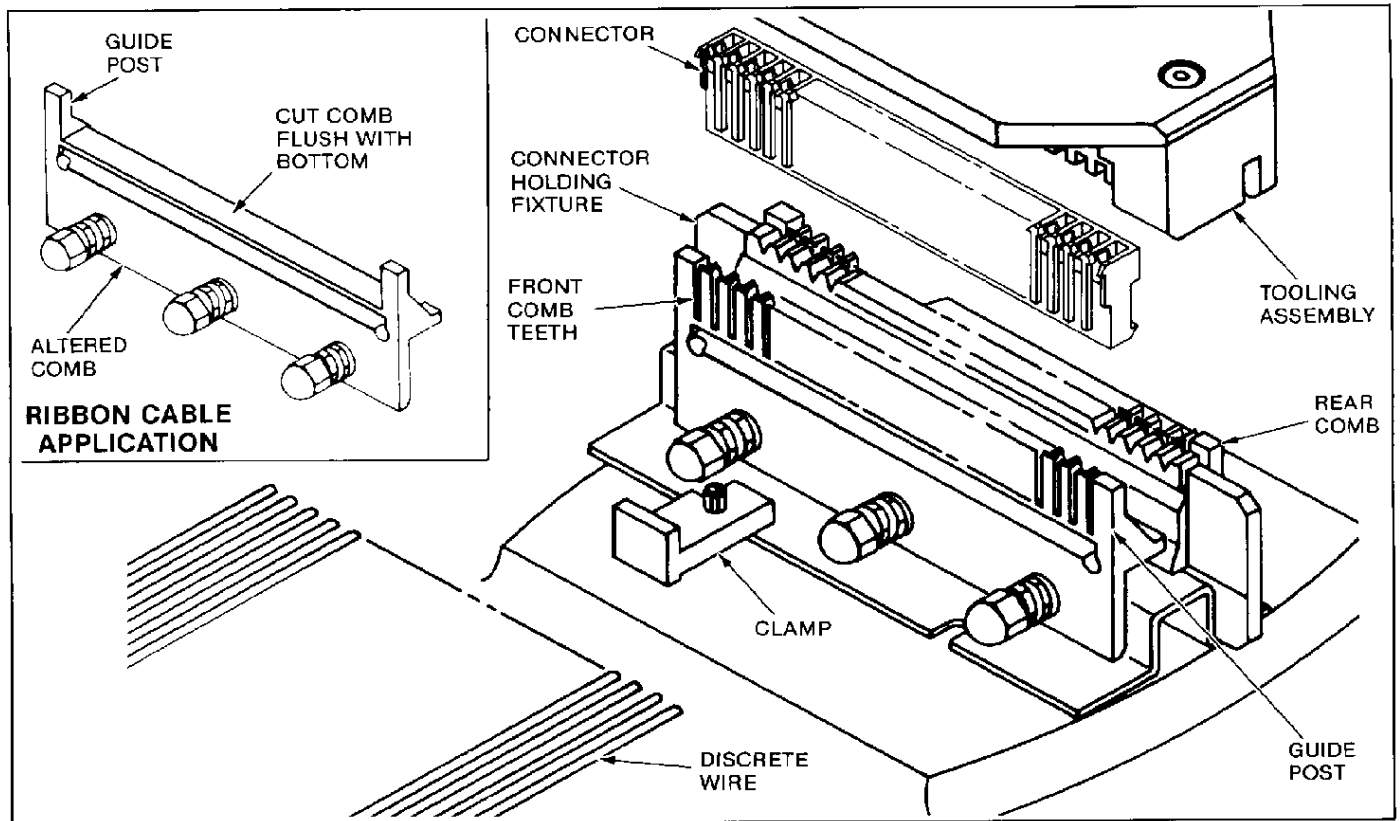

Fig. 4
1. Spread connector holding fixture and insert connector into center of fixture as shown in Figure 4.
1. Remove or cut off rear comb of connector holding fixture for use in feed-through applications. See Figure 4.